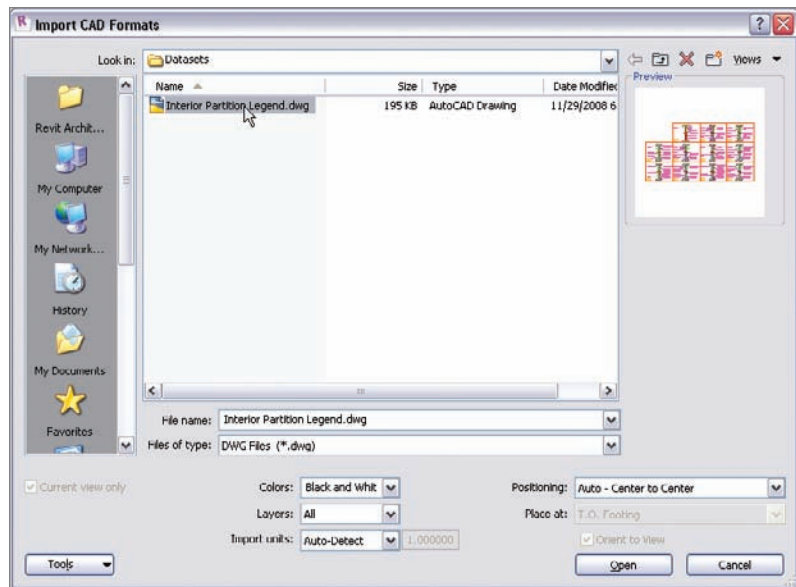

FIGURE 11.55 The Import CAD Formats dialog. Be deliberate when importing a CAD file by choosing the options at the bottom of the dialog.
6. At the bottom of the Import CAD Formats dialog, notice that you have a few choices (see Figure 11.55):